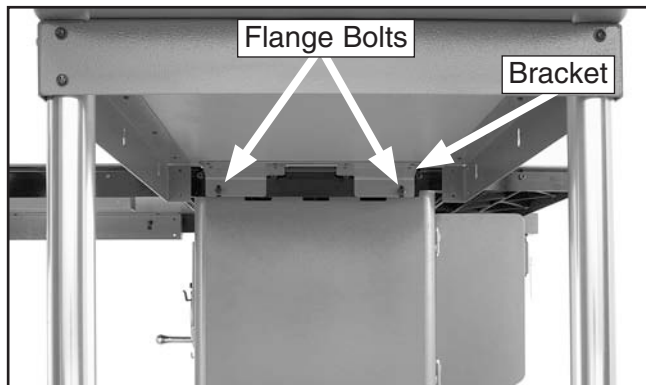

Figure 20. Outfeed table fastened to rear rail.
- Place the extension table assembly upright with the feet on the ground, align the slots in the extension table bracket with the rear rail mounting holes, then fasten the table to the rail with two M8-1.25 x 16 flange bolts and hex nuts shown in **Figure 20**.